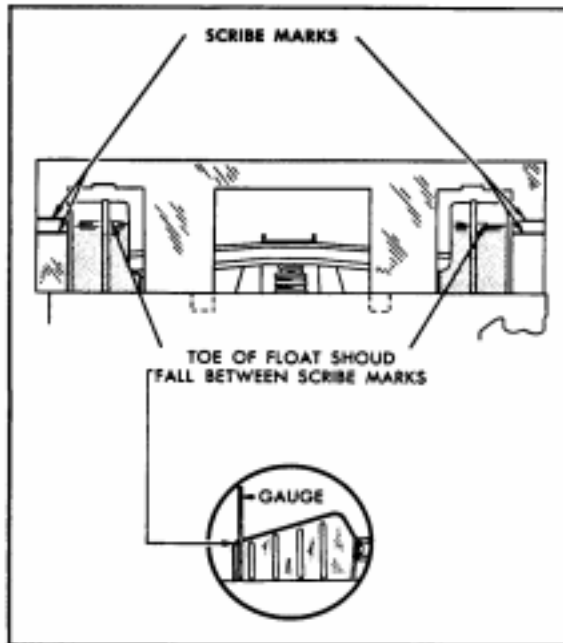

Fig. 4 Rochester Float Adjustment
5. With air horn inverted lower tip of float should clear air horn casting by $1/8'' \pm 1/16''$. (With gauge in position the scribe marks on face of gauge show required height of float toe necessary to ensure this clearance; see Fig. 4).